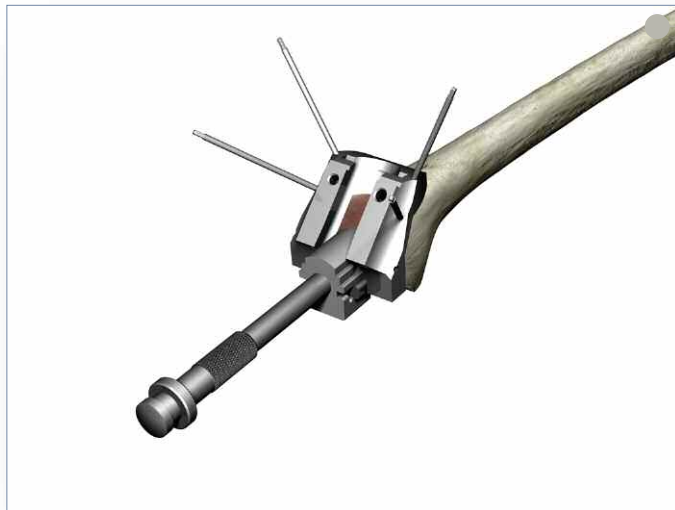

Figure 41
- ▶ Using a mallet, impact the Compactor until it reaches the end-stop and is fully seated in the Notch Block (**Figure 41**).